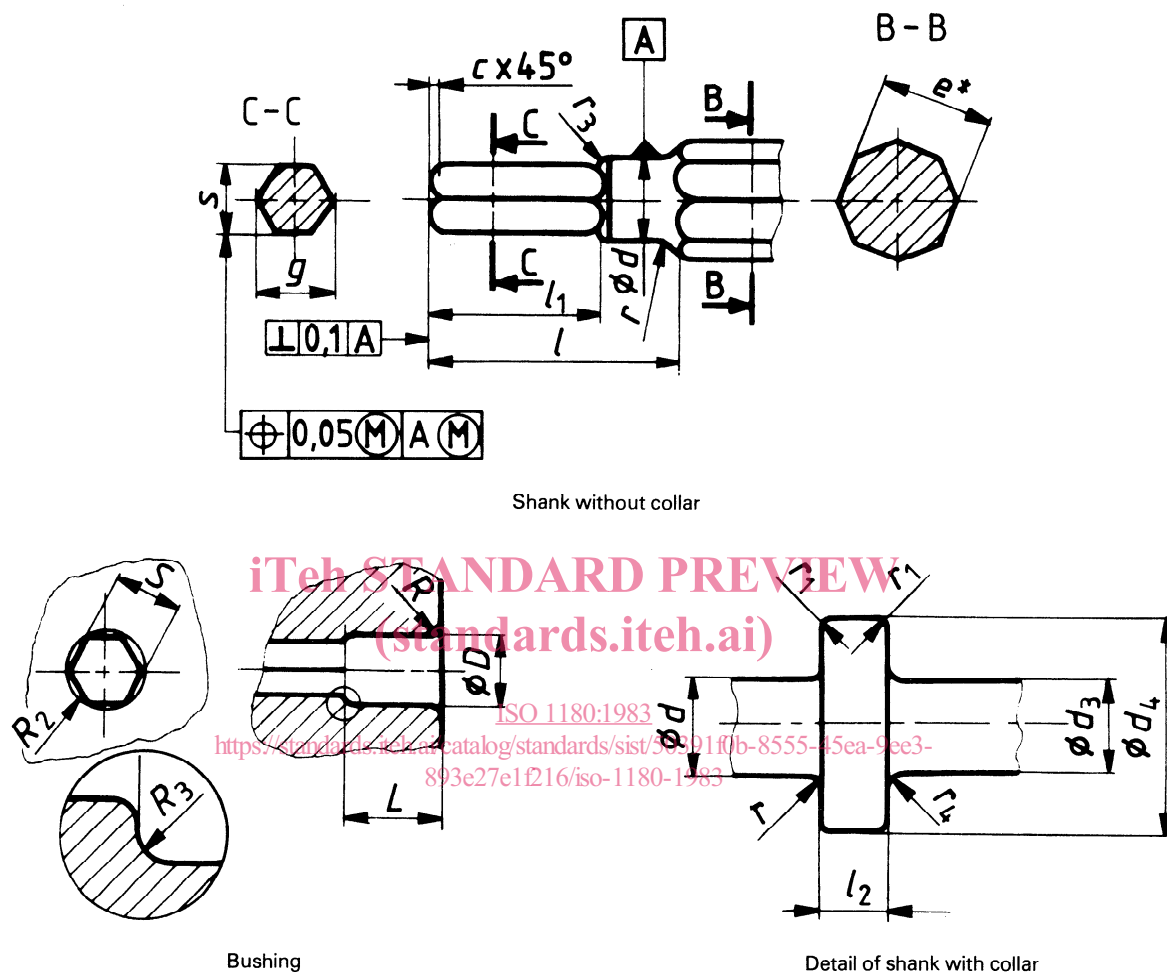
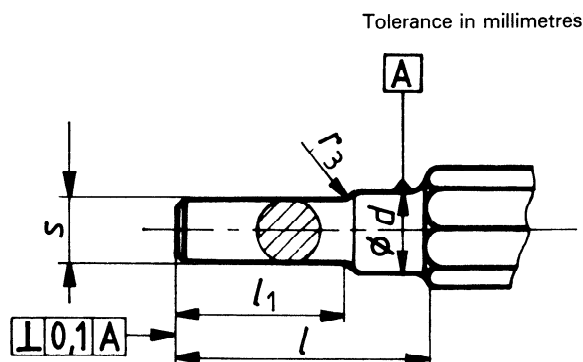

Figure 2 — Tool with hexagonal shank
Figure 3 — Alternative shank
- 3 As an alternative to tool with hexagon shank (see figure 2) the hexagon portion may be replaced by a cylindrical portion with the same length l_1 and a diameter s equal to the width across flats of the hexagon (see figure 3).